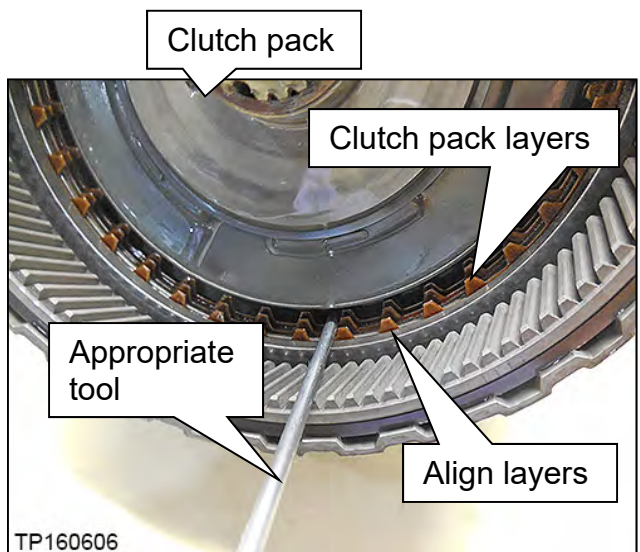

Figure 69
- The bottom of the clutch pack is shown in Figure 69.